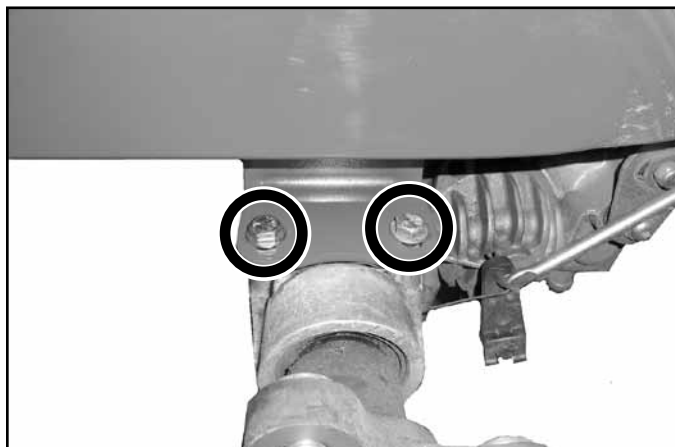

Fig. 081
- 4th – Torque the (2) outside hydro mount fasteners to specification – 17 ft-lbs. (23 Nm) (Fig. 081).